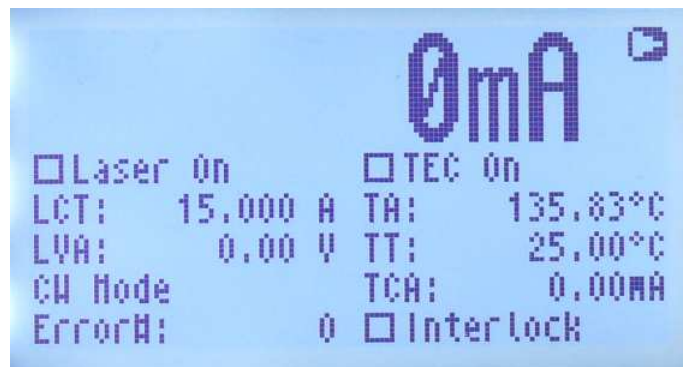

Figure 3: Start menu (1st level) of the diode laser. It appears after driver turn-on.
- 1) Move the cursor onto the upper right position marked as: "▶" and press ENTER until you reach the 1st menu shown in Fig. 3.
The menus are shown in Figure 3, 4, 5 and 6. The abbreviations have the following meanings: